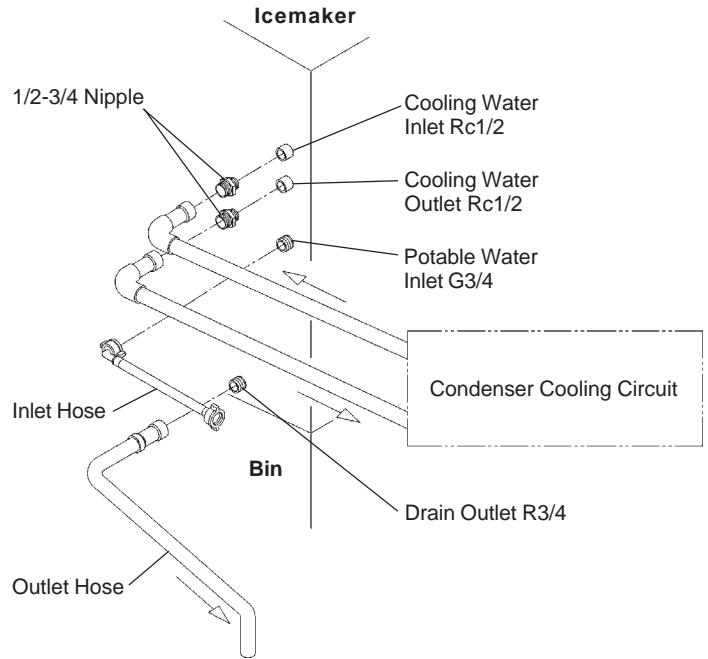

Fig. 9
[a] Standard connections according to WRC regulations in U.K. (Fig. 9 and 10)
3) Attach grey flexible outlet hose (accessory) to the R3/4 fitting on the rear of the icemaker as indicated (Fig. 9), confirming fitment of
5) Connect the Condenser cooling circuit to the free end of 1/2-3/4 nipples as indicated (Fig. 9) using a suitable rigid type pipe. P.T.F.E. tape and/or a suitable sealing compound should be used to obtain a leak free joint.